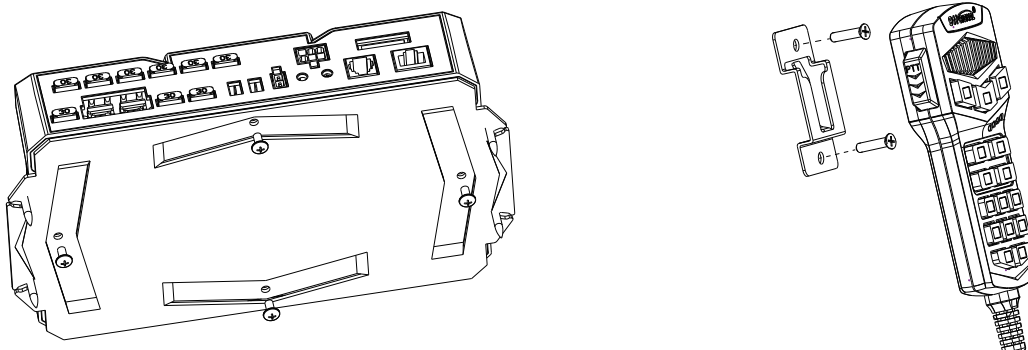

Figure 2-2. Bracket.
2.2.1 Mounting Brackets. See Figure 2-2 (Bracket) There are two ways to choose.